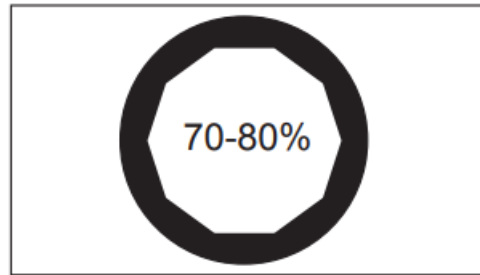

Figure 8
3. **Aperture Iris Diaphragm Adjustment:** To achieve the best contrast, resolution, and depth of field, the aperture diaphragm should be set to approximately 70-80% of the field (figure 8) to match the objective's